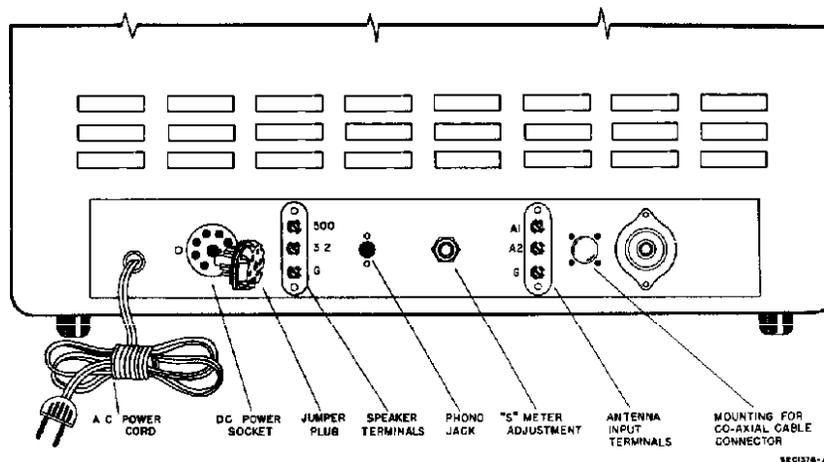

Fig. 4. Rear View of Receiver
The receiver is designed to operate directly on 105 to 125 volt, 50-60 cycle AC current. Provision has also been made in the receiver for operation from an external DC power source for portable or emergency service in areas where AC power is not available. Connections to the DC source are made through the DC POWER SOCKET at the rear of the receiver. (See Fig. 4.)
**IMPORTANT:** The receiver will not operate from an AC source unless the JUMPER PLUG is inserted in the DC POWER SOCKET. (See Fig. 4.)
A three-terminal strip, marked "G", "3.2" and "500", is provided at the rear of the receiver for connecting the external speaker that is required with the receiver. (See Fig. 4.) Any permanent magnet speaker with a 3.2-ohm voice coil can be used by simply connecting the two leads from the speaker voice coil to the terminals marked "3.2" and "G". If it is desired to use a speaker with a voice coil impedance other than 3.2 ohms, a matching transformer should be employed to insure optimum performance. The transformer should be mounted on or near the speaker, and should have a 5 watt power rating, a 500-ohm primary impedance, and a secondary impedance to match the impedance of the speaker voice coil. Connect the primary of the transformer to the terminals marked "500" and "G" and the secondary to the speaker voice coil terminals.
A phono jack is provided at the rear of your receiver for attaching a record player. (See Fig. 4.) Any record player using a crystal cartridge, or a magnetic cartridge with a suitable pre-amplifier, will provide satisfactory results. For phono operation, insert the pin-plug from the record player or pre-amplifier into the phono jack and set the SELECTIVITY control on the front panel at "PHONO". Adjust the VOLUME control for the desired volume level and set the RESPONSE control at either "NORMAL" or "TREBLE CUT" for the desired tone. The remaining controls are inoperative and will have no effect on phono operation.
The receiver may be disabled from a remote location by connecting a remote spst switch between pins 1 and 4 of the JUMPER PLUG located in the DC POWER SOCKET at the rear of the receiver. (See Figs. 4 and 6.) To operate the receiver with the remote switch, the RECEIVE-STANDBY switch on the front panel must be left at "STANDBY".